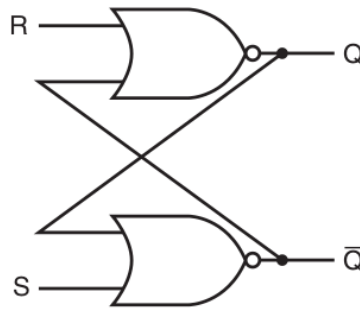

Figure 3: A Set-Reset latch.
Latches are unclocked memory elements. Figure 3 shows a Set-Reset(SR) latch using two NOR gates. Q is the main output and Q bar is the complement of Q. When Q is true, if S is asserted then Q will be